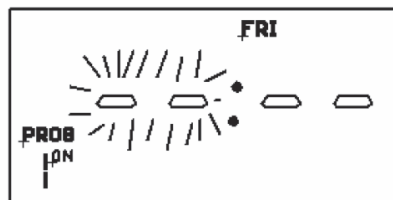

Figure B-13: Duplicating program
- Use '+' or '-' button to select 'TUE', then press 'TIME' button twice to copy the data. The display will represent Figure B-13.